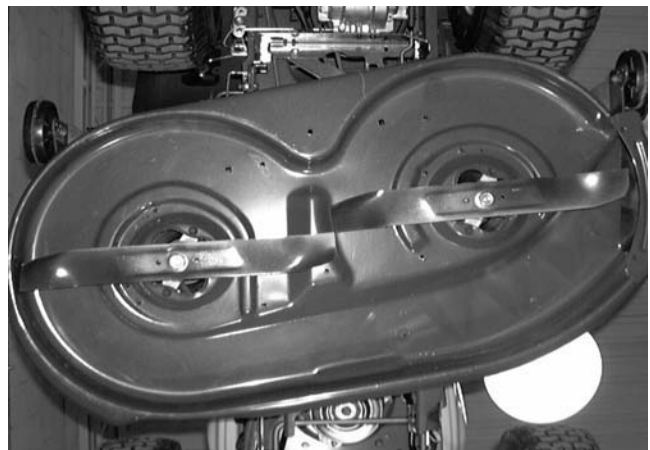

FIGURE 5.
- 1). Using a work glove or rag, rotate the blades until they are cutting edge tip to cutting edge tip (perpendicular) to the tractor. See figure 5.